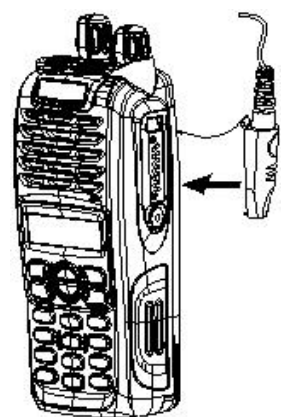

Figure 7
3. Rotate the screw clockwise to fasten. See Figure 7.